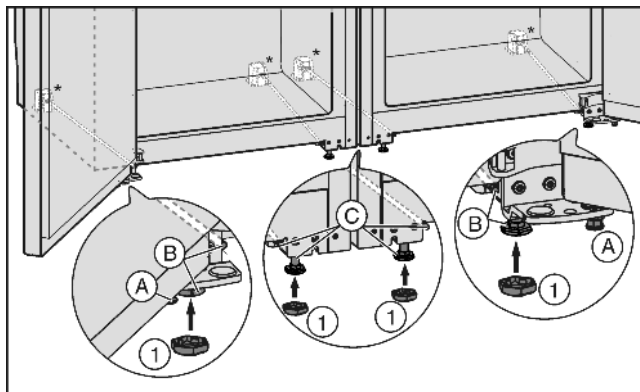

Fig. 4
- ▶ If necessary, completely retract the height-adjustable feet Fig. 4 (A) at the front of both appliances so that they are not touching the floor.
- ▶ Place the caps Fig. 4 (1) onto the four front height-adjustable feet.
- ▶ Retract the centre height-adjustable feet Fig. 4 (C) so they are not in contact with the floor.
- ▶ Level the combination using the outer height-adjustable feet Fig. 4 (B).
- ▶ Lower the centre height-adjustable feet Fig. 4 (C) until they touch the floor.
- ▶ Then support the door: Extend the height-adjustable feet Fig. 4 (A) at the turn hinge until they are resting on the floor, then turn them further by 90°.